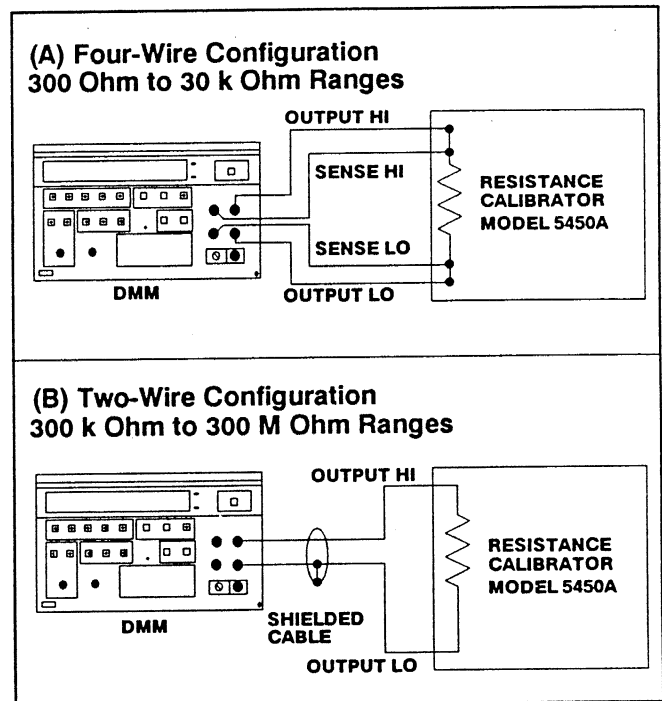

Fig. 2-3. Connections for Ohms Check.
- b. Connect the DMM to the resistance calibrator as shown in Fig. 2-3.
- j. Connecting the DMM and resistance calibrator as shown in Fig. 2-3, check the 3 k Ω through 300 M Ω ranges by applying the respective resistance levels listed in Table 2-4.